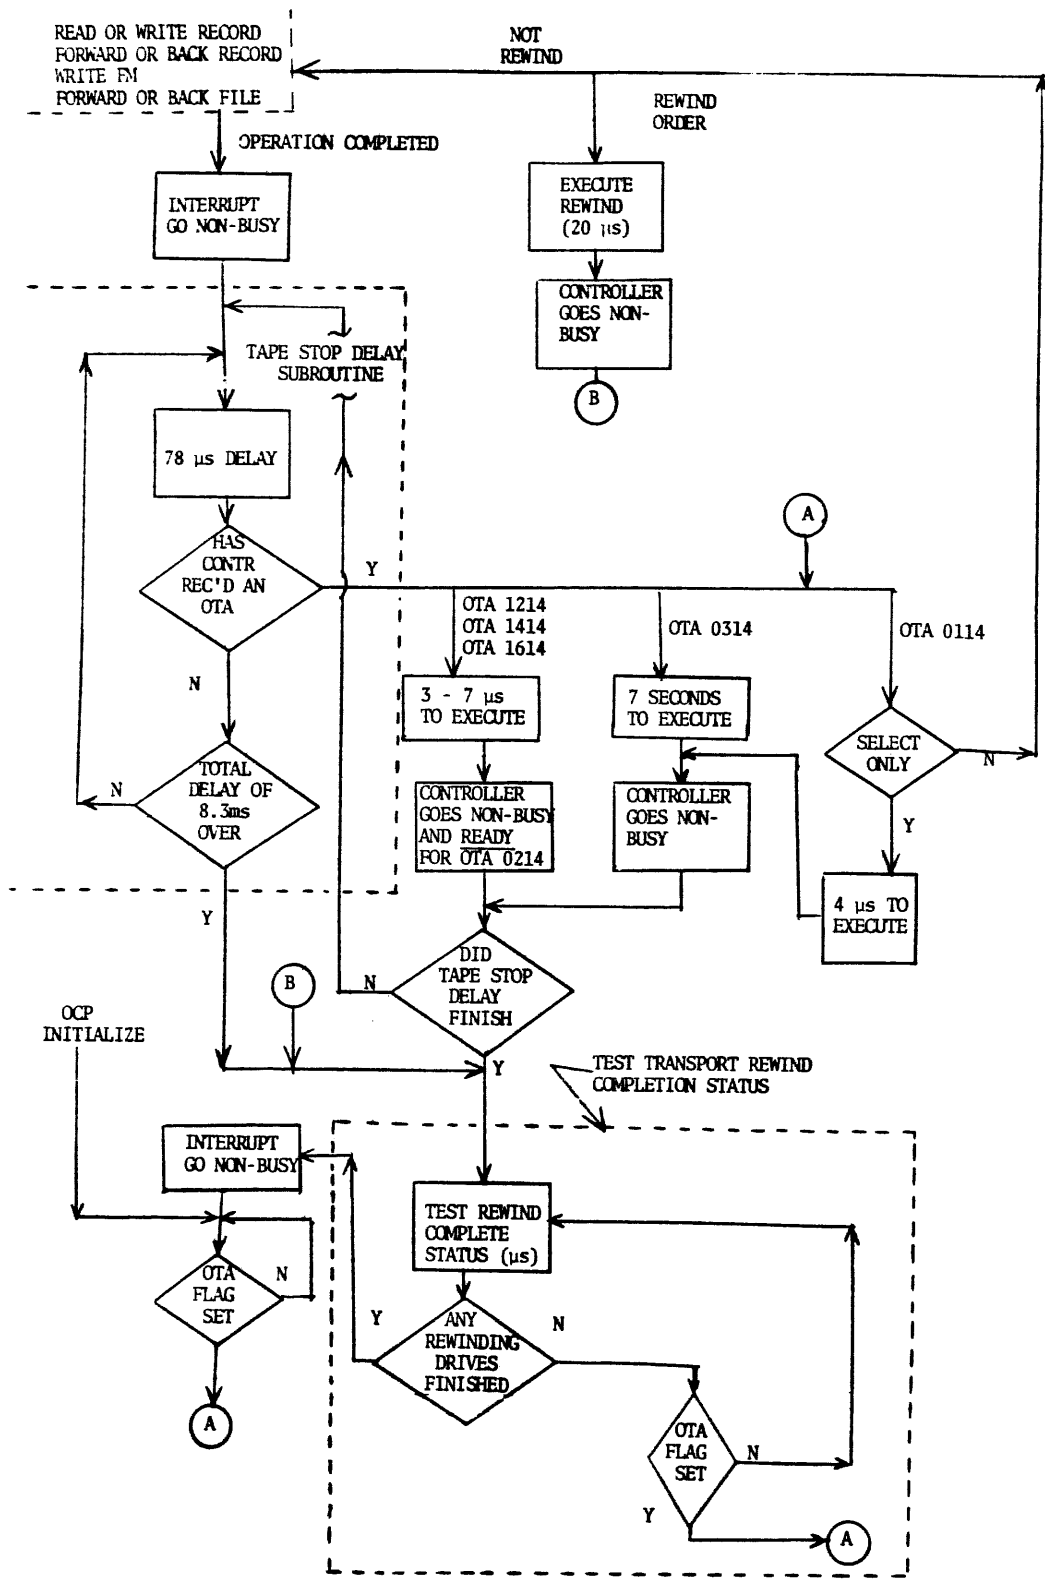

Figure 5-8. Timing Considerations for Magnetic Tape Operations
When the controller goes not busy following any tape motion order, a time-out is started. This is the tape stop delay shown in Figure 5-8. The length of the time-out is proportional to tape speed and is 8.3 milliseconds for 45 ips transports. At the end of the time-out, tape motion will stop. However, orders to the same transport are permitted during the time-out provided (1) the direction of motion is not changed and (2) the order does not change from a read to a write or vice-versa. If these conditions are not met, the controller stores the new order for the balance of the 8.3 ms time-out and then executes the order.
When the controller goes not-busy and when the time-out for tape motion orders referenced above occur, the controller assumes its quiescent state. During this state, it executes a routine that tests for receipt of an OTA and then tests each transport in turn to see whether it has finished a REWIND operation. This routine takes 7.0 microseconds and is shown in Figure 5-8 as the transport rewind completion status.